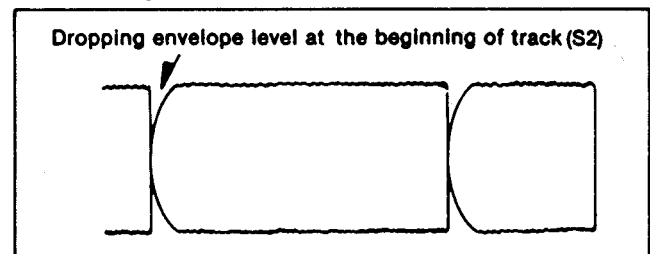
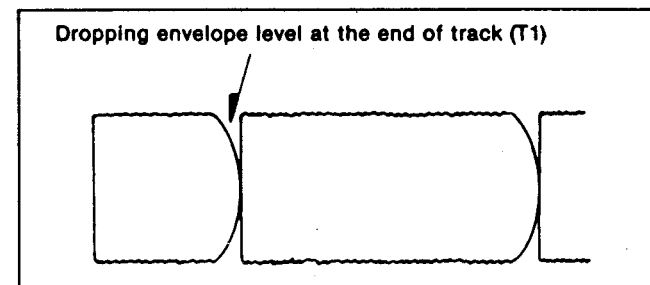
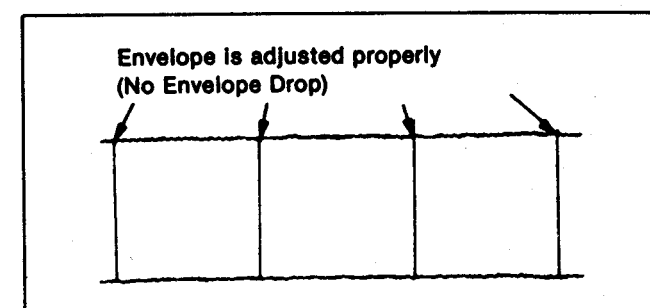

Fig. T10
Fig. T11
Fig. T12
- (3) When the scope display is shown in Fig. T10 adjust the height of S2 so that the wave looks like Fig.T12.
- (4) When the scope display is shown in Fig.T11, adjust the height of T1 so that the wave looks like Fig.T12.